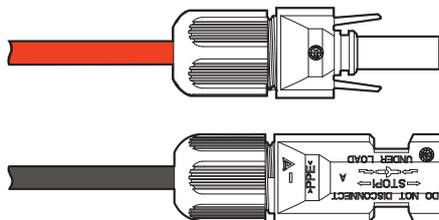

Figure3-20 Tighten the sealing nuts
Step 4 Tighten the sealing nuts of positive connector and negative connector to the corresponding insulation crusts respectively, as shown in Figure3-20.